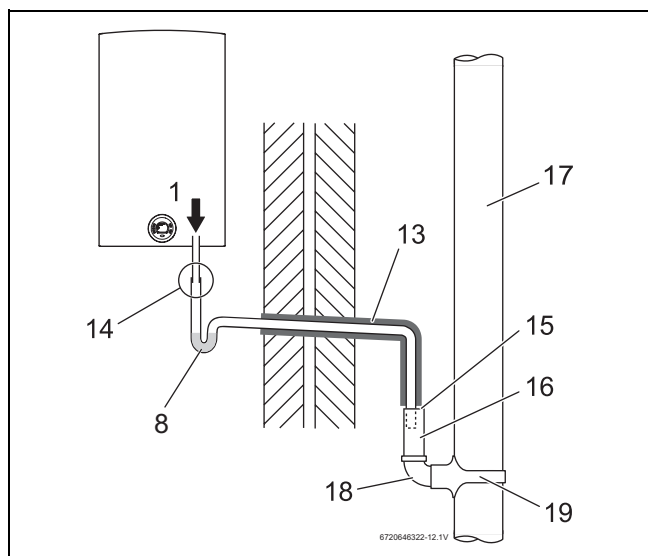

Fig. 31 Disposal into a rainwater down pipe
- Refer to figure 31 when a rain water down pipe is used to dispose of condensate.